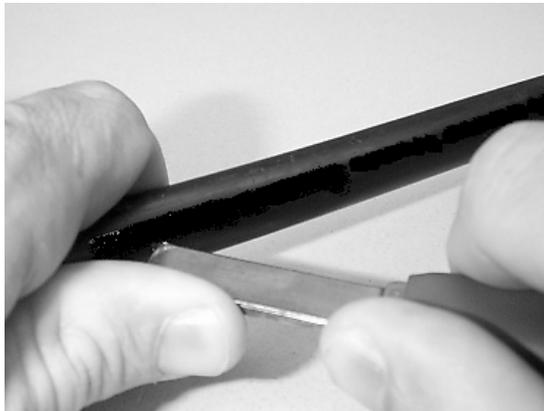

Figure 23 – Make a longitudinal cut at the end of cable jacket.
7.5 Make a longitudinal cut in the cable jacket between the second ring cut and the end of the cable (Figure 23).